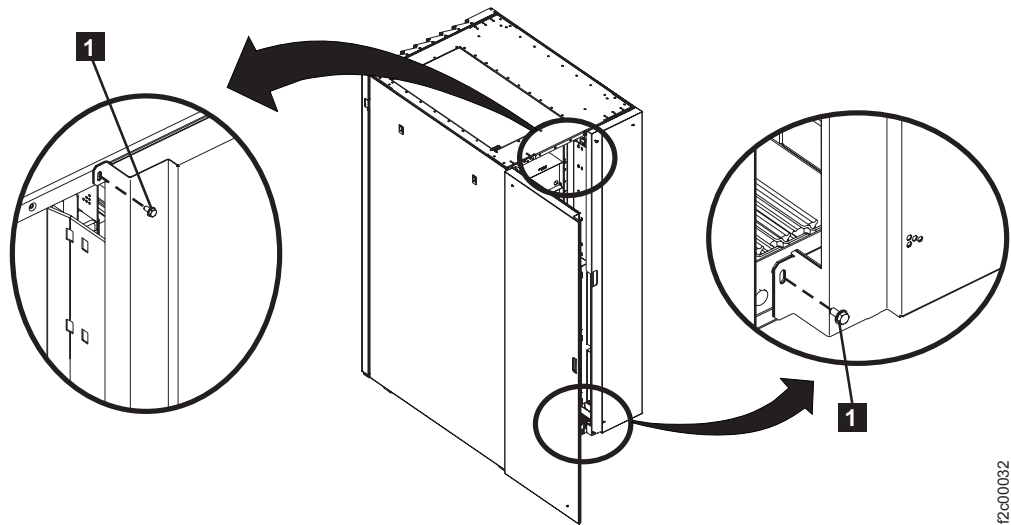

Figure 10. Removing retaining screws on right rear machine cover
- b. Remove and retain the two screws **1** and open the rear right machine cover. Refer to Figure 10.